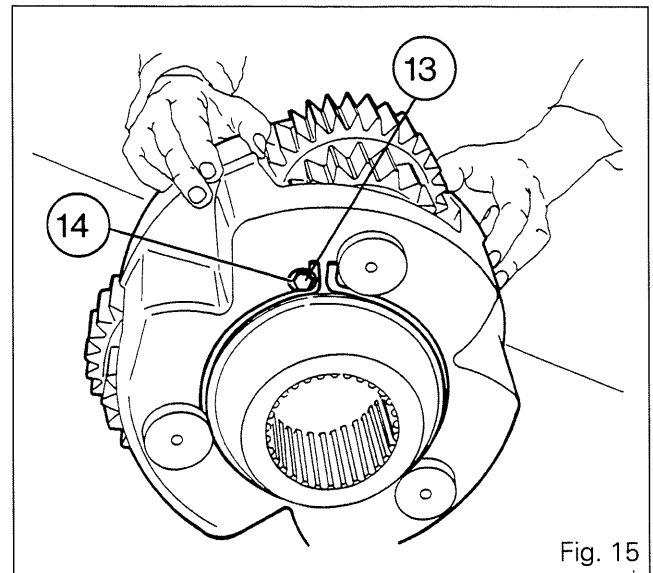
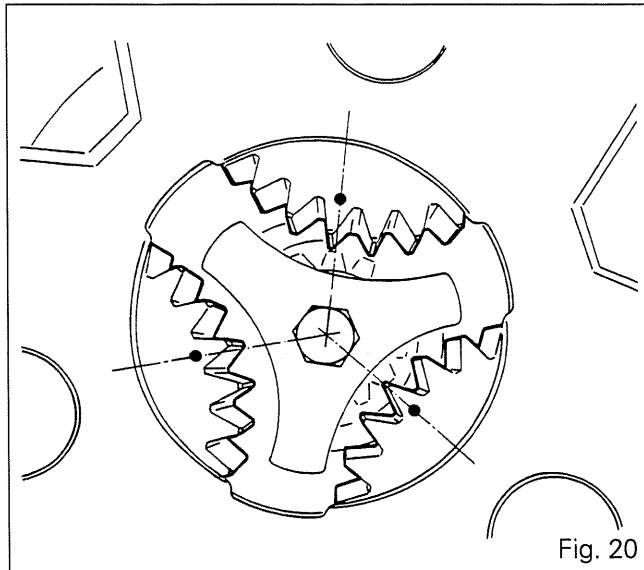
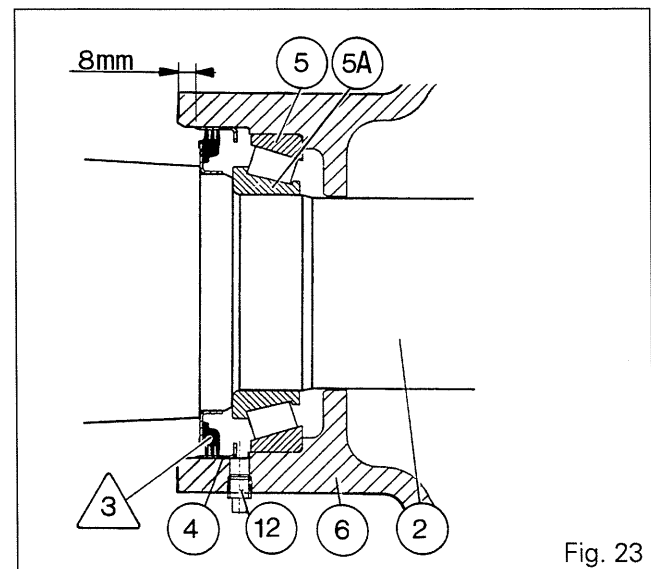

Fig. 15
Fig. 20
Fig. 23
6. Remove the bolt (13) and the spacer (14) (Fig. 15).
21. Clean the bolt (13) and the planetary carrier threads. Place the spacer (14). Coat the bolt with Loctite 270 and tighten to a torque of 34 - 50 Nm (Fig. 15).
22. Replace the 'O'ring (33), check that the dowel (9) and the spur washer (11) are present. Refit the ring gear (10) and the planetary carrier (21).
**Note : Position the planetary gears as shown (Fig. 20).**
- Lubricate the cups (8) and (5), press them fully on to the shoulder.
- Press the cage (4) to within 8 mm of the trumpet housing (Fig. 23)
**Note : Ensure that the seal is fitted the correct way round (Fig. 23).**
- Lubricate the shaft (2) and press the cone (5A) against the shoulder.
- Protect splines of shaft (2) and insert it into the trumpet housing.
- Replace 'O'ring (33). Check that dowel (9) is present. Refit the ring gear (10) and planetary carrier (21). Position the planetary gears as shown Fig. 20.
- Replace the plug (12) by a grease nipple. Partly fill the cavity at the end of the trumpet housing between the cone (5A) and the seal /3\ with BP Agricharge or an equivalent grease. Remove the grease nipple, refit the plug (Fig. 23).